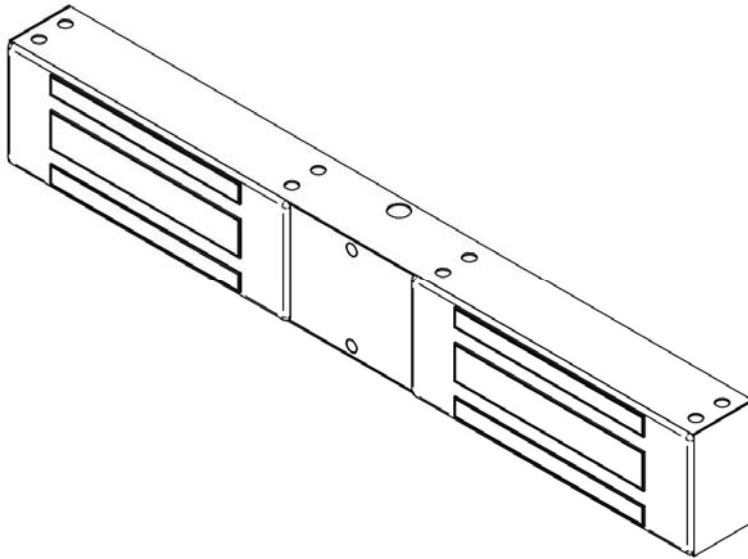

Figure 8
The DM62 consists of two (2) Model 62 Magnalocks arranged in one (1) stainless steel housing as shown in **Figure 8**. This product individually secures out-swinging double door applications.